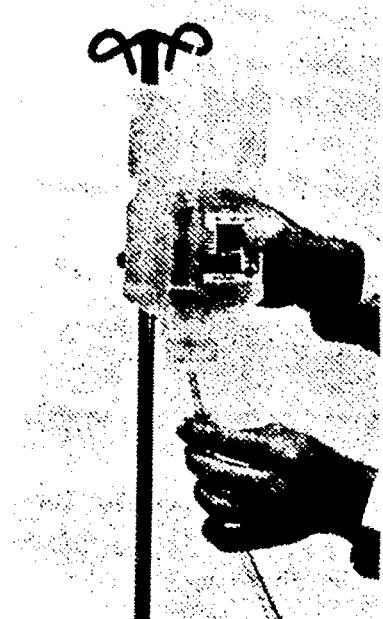

Figure 7
11. Spike irrigation source. See figure 7.
NOTE: Pump unit will have to be activated and deactivated via irrigation control hole (see figure 7, p.5) on handpiece or irrigation control port (see figure 7, p.5) as adjustment is made.